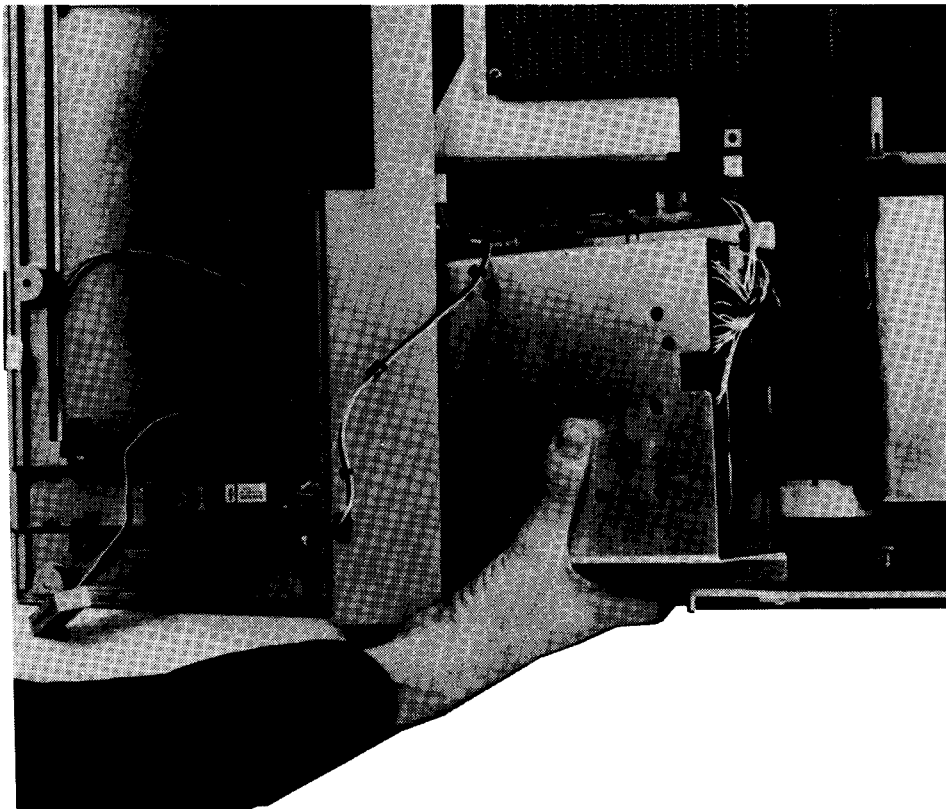

Figure 4-7. Removing the Disc Drive Mechanism
6. Slide the right-hand disc drive mechanism out of the computer as shown in Figure 4-7.
8. Slide the left-hand disc drive mechanism out of the computer as shown in Figure 4-7.